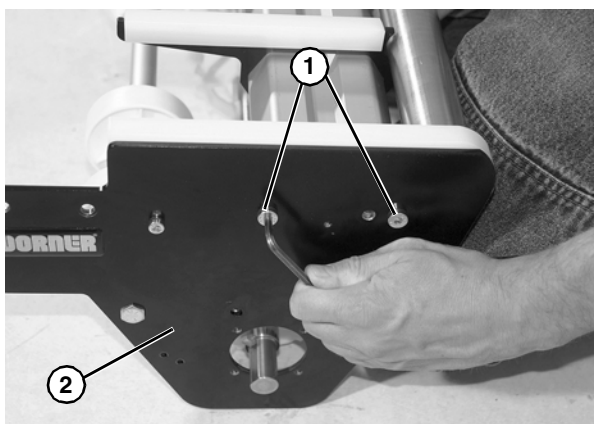

Figure 58
10. Remove two socket head screws (Figure 58, item 1) from end plate (Figure 58, item 2).